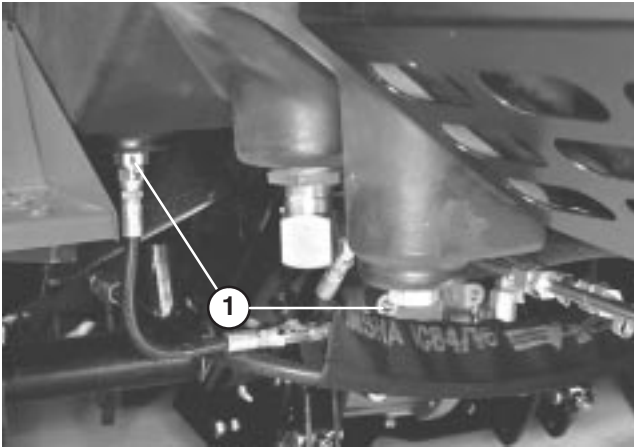

Figure 35
CHANGING HYDRAULIC OIL (Fig. 35 & 36)
2. Remove drain plug from rear of reservoir and hydraulic line from front of reservoir (Fig. 35) and let hydraulic oil flow into drain pan. Reinstall and tighten plug and line when hydraulic oil stops draining.